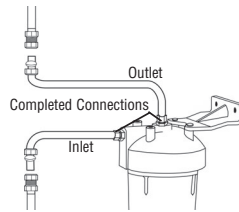

Figure 9
- Connect both pieces of tubing to filter and water tube as shown with compression fittings. Do not overtighten nuts. (Figure 9)